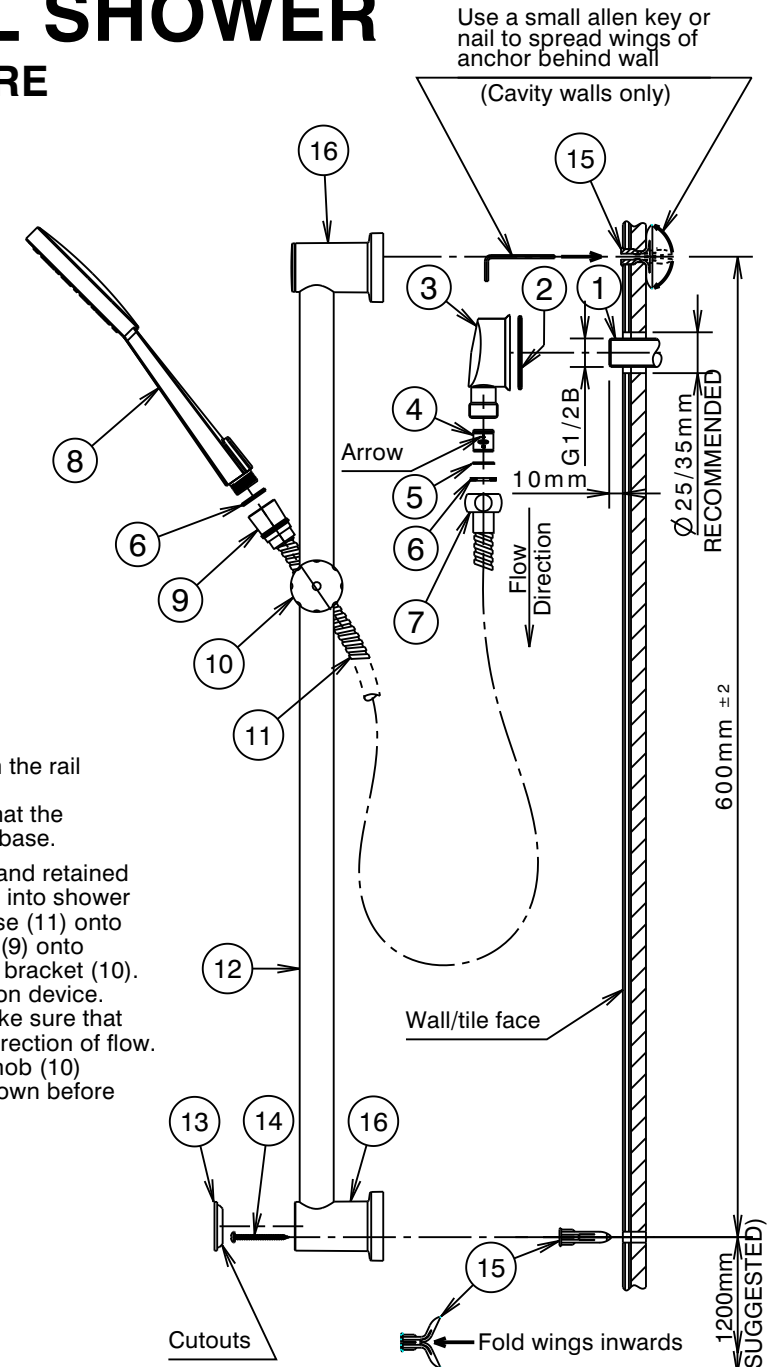

Fig.1
- ii) Fold the wings of the anchors (15) inwards, as shown.
- iii) Insert the folded anchor (15) into each drilled hole and tap until the head is flush with the wall surface.
- iv) Insert a small allen key or nail into the hole of the anchor (15) to spread the wings of the anchor behind the wall (Fig.1).
- 5) Carefully remove caps (13) from rail bases (16) then attach the rail assembly to the wall using screws (14) and tighten.